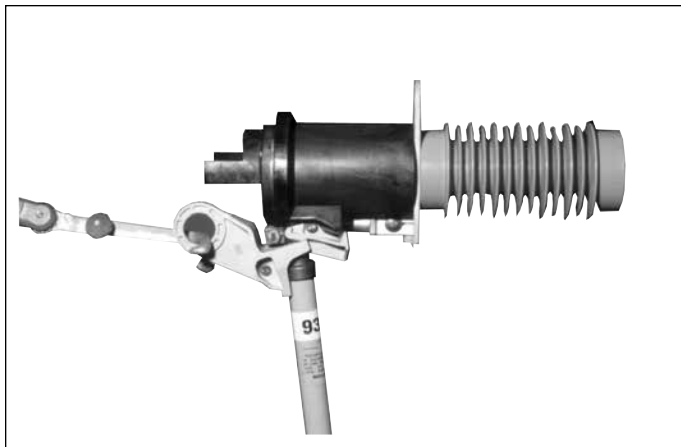

Figure 18. Fuse holder being pulled open (or pushed closed).
The fuse assembly must be in the proper latched position with the contact rod on the upper fuse end fitting engaging the latch face during the closing operation (see "Preliminary Check Before Energizing") and secured behind the latch face after complete closure has been achieved. In addition, the fingers of the fuse end fittings must be positioned completely behind the black latch housing and the Positive Latch Indicator target extended. See Figure 15. This allows the interrupter to function properly so that as the fuseholder is pulled, the interrupting plunger will be pulled forward to it. See "Load-break Fuse Operation (Illustrations)" (Figure 18 through Figure 26) on this page. The arc is then extinguished safely and properly by the puffer mechanism before the fuseholder breaks free of the receiver. See Figure 15.
3. Verify that the fuse is latched (see Figures 15 and 27a) and that the Positive Latch Indicator target is extended (see Figure 27b) and then install long prong of the grappler tool into pull ring of fuse end fitting with the prong pointing down. See Figures 18 and 27b.